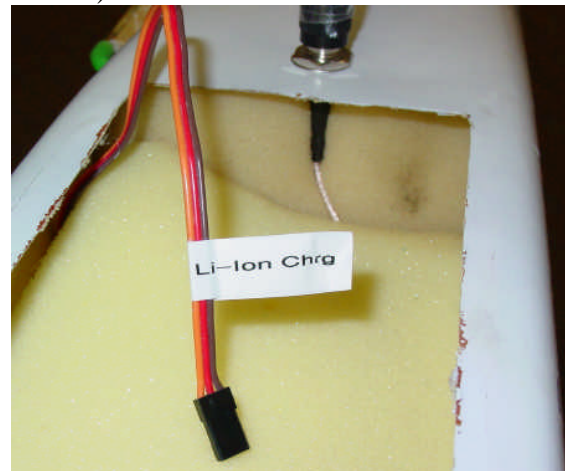

Figure 20. Battery charge lead
- Open the access hatch and locate the wire labeled 14.4 V Li-ion (see Figure 20).